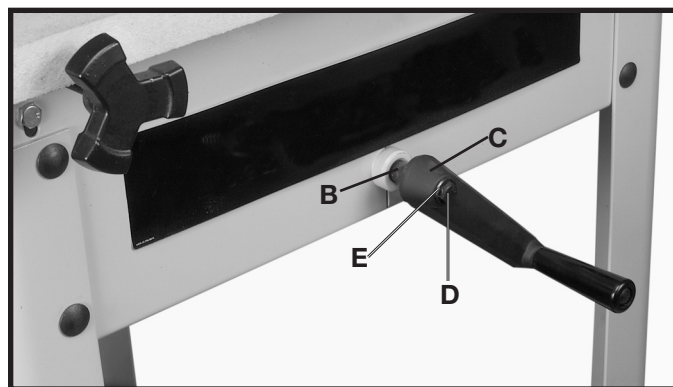

Fig. 6
3. Fasten elevating handle (C) Fig. 6, to shaft (B) with a 1/4-20 x 1 1/2" hex head screw (D) and 1/4" flat washer (E).